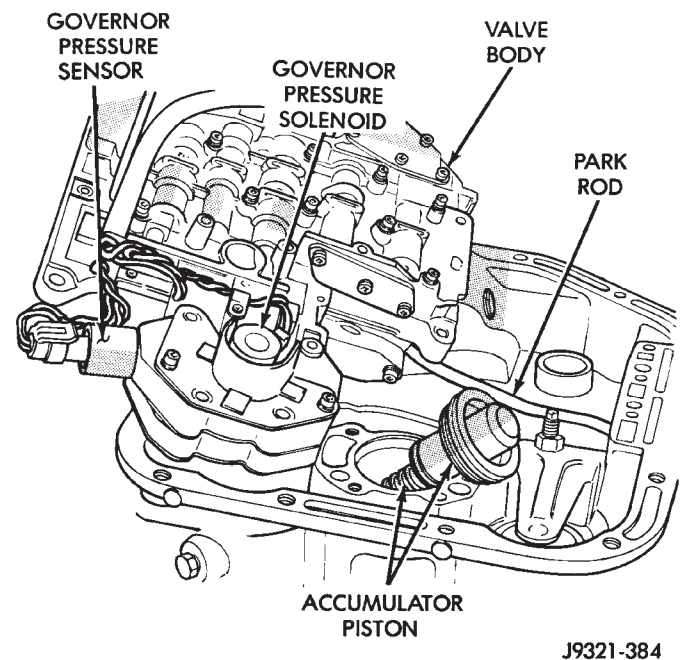

Fig. 89 Valve Body Removal
(10) Remove valve body assembly. Push valve body harness connector out of case. Then work park rod and valve body out of case (Fig. 89).